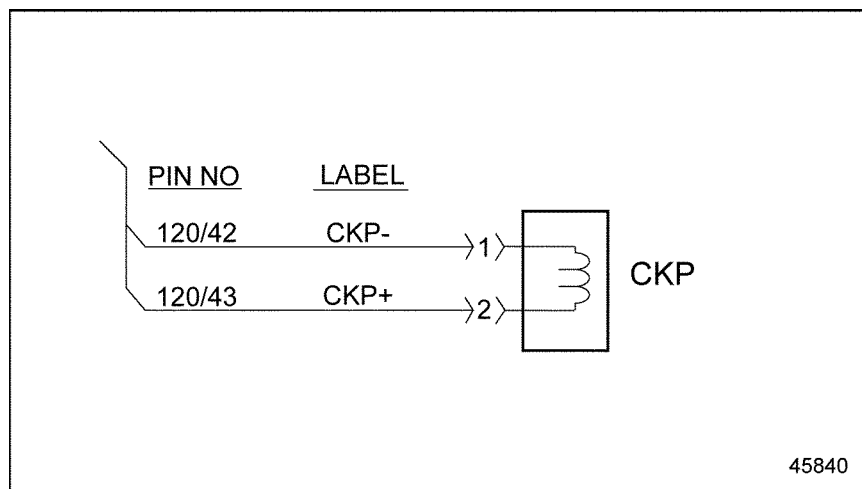

Figure 22-3 Crankshaft Position Sensor
- [a] If sensors are out of position, repair or replace the spring bushing, as required. Erase fault code memory. See Figure 22-3.